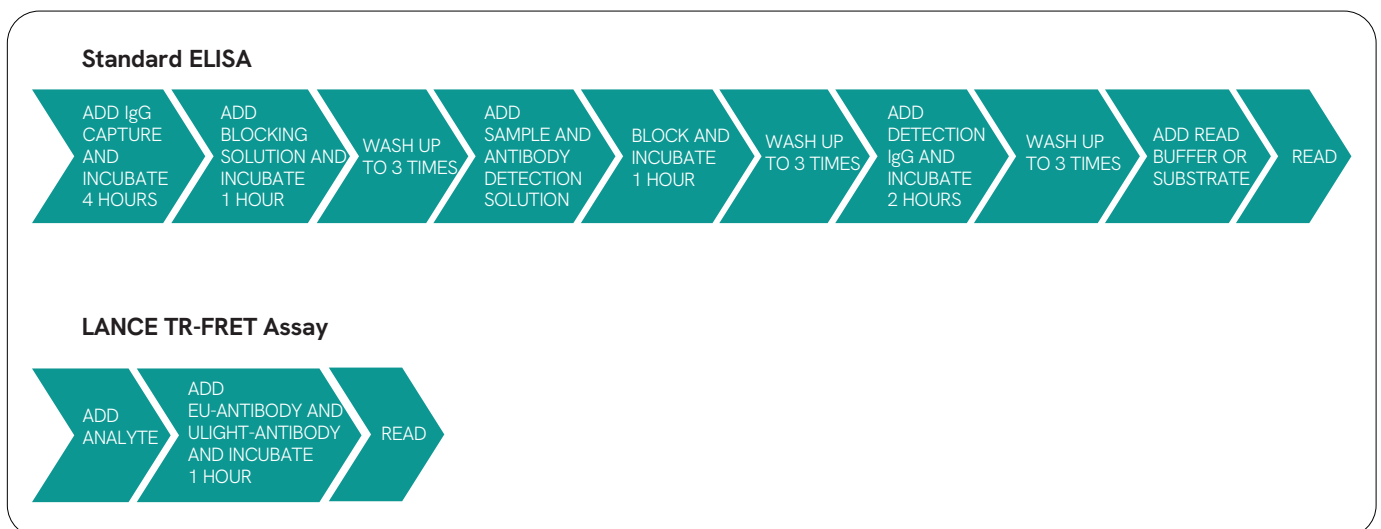

Figure 2: A workflow comparison between LANCE TR-FRET and standard immunoassays. LANCE TR-FRET assays can be performed in three simple steps.
- Most importantly, LANCE is a homogeneous assay which means that the reduced number of assay steps compared with standard immunoassays offers maximum precision and improved CVs while speeding up the process and simplifying the workflow (Figure 2).